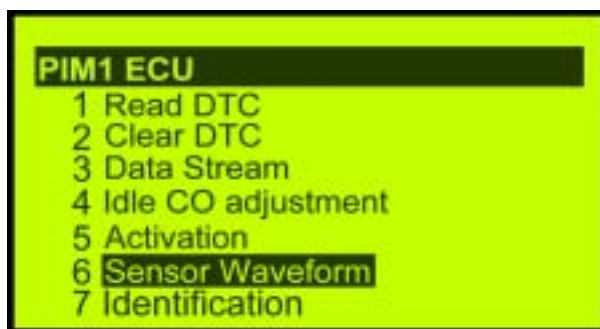
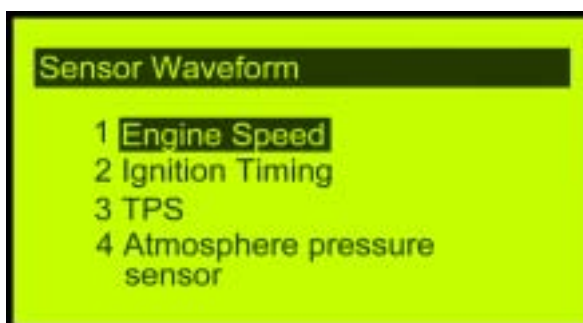

Fig 35
Fig 36
9. With the ▲▼ cursor to select “6. Waveform” analysis (as fig 35), press ENTER to enter into the waveform analysis menu. (as fig 36). 1. engine speed, 2. ignition timing (BTDC), 3. TPS, and 4. Atmosphere pressure sensor.